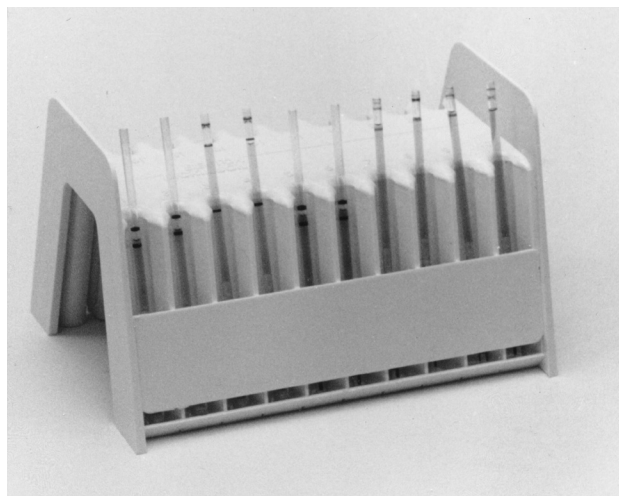

Figure 6-2. Centrifuged Tubes
- d) If not read promptly, the centrifuged tube should be stored temporarily, stopper or closure end down, in the QBC™ tube rack (see Figure 6-2 or QBC™ work station).